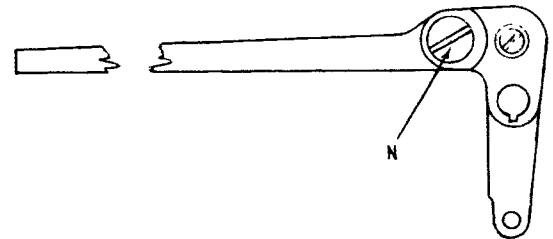
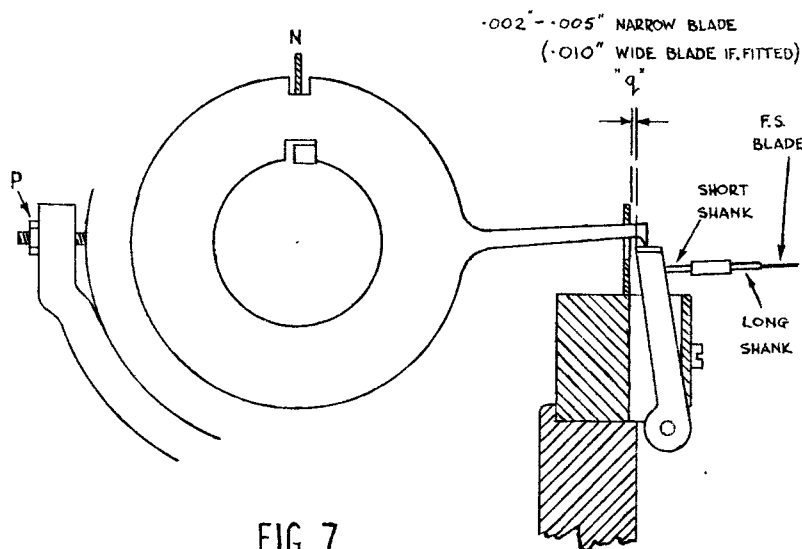

FIG. 8
FIG. 7
- 13 PUSH FINGERS TO MARK " (FIG 10) CLEARANCE UNDER COMB EXTENSIONS SHOULD BE 0.005" ADJUST BY ECCENTRIC & LOCKNUT P (FIG 7)
- 16 ADJUST HORIZONTAL MOVEMENT OF FINGER SETTING BLADE BY SCREW N (FIG 8) TO SATISFY DIMENSION "q" (FIG 7). CLAMP VERY TIGHTLY AND CHECK THE ADJUSTMENT CAREFULLY.